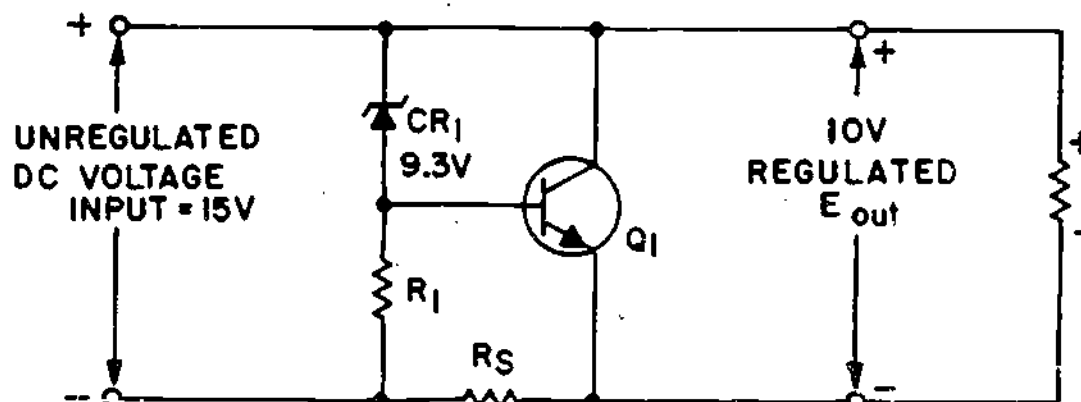

FIGURE 15
- (23.) THIS IS A TEST FRAME. STUDY THE SCHEMATIC IN FIGURE 15 IN ORDER TO ANSWER THE TEST QUESTIONS. AFTER YOU ANSWER THE TEST QUESTIONS COMPARE YOUR ANSWERS WITH THE CORRECT ANSWERS GIVEN ON THE TOP OF THE PAGE FOLLOWING THE QUESTIONS.